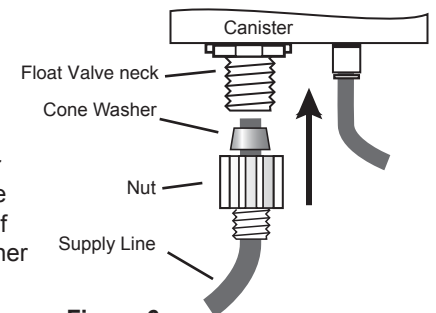

Figure 6
6) Slide one end of the Supply Line (the left-over tubing from Step 5) through the Nut and the Cone Washer (see Figure 6) and insert it into the end of the Float Valve neck. (Make sure the Cone Washer is oriented as shown.) Tighten the Nut securely.